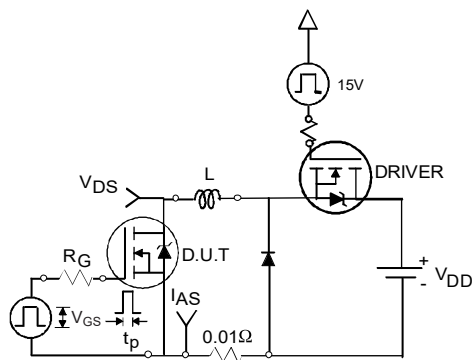

Figure 14a: Unclamped Inductive Test Circuit
3. Equation below based on circuit and waveforms shown in Figures 14a, 14b.